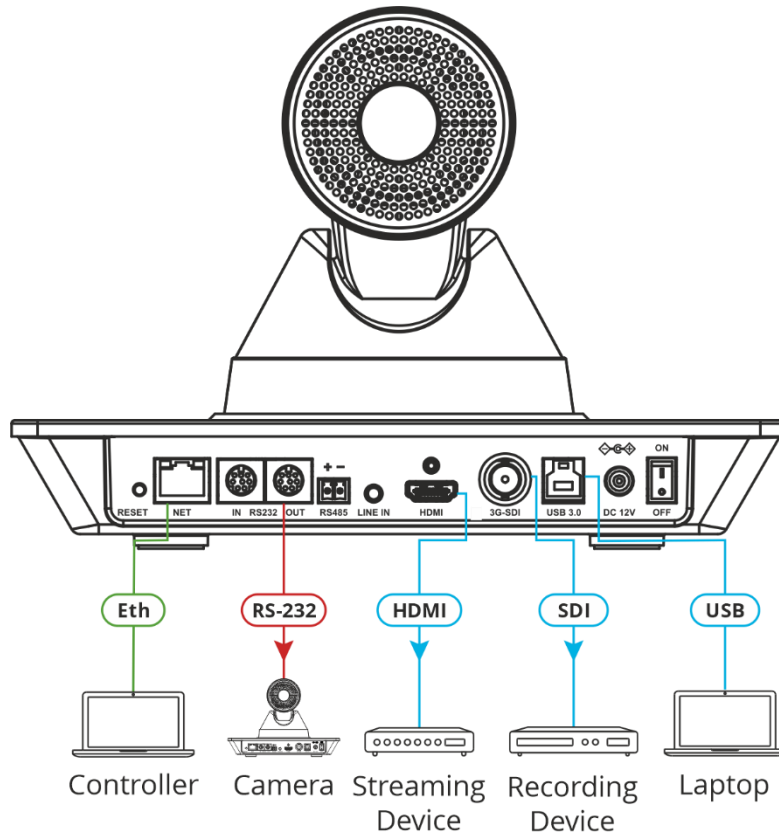

Figure 2: Connecting to the K-Cam4K Rear Panel
To connect K-Cam4K as illustrated in the example in Figure 2:
1. Connect a laptop to the NET RJ-45 connector (5) directly or via the network.
2. Connect the RS232 OUT 8-pin DIN Connector (7) to an additional Camera.
3. Connect the HDMI connector (10) to a streaming device.
4. Connect the 3G-SDI connector (11) to a recording device.
5. Connect the USB 3.0 port (12) to a laptop.
6. Connect the power adapter to **K-Cam4K** and to the mains electricity (not shown in Figure 2).